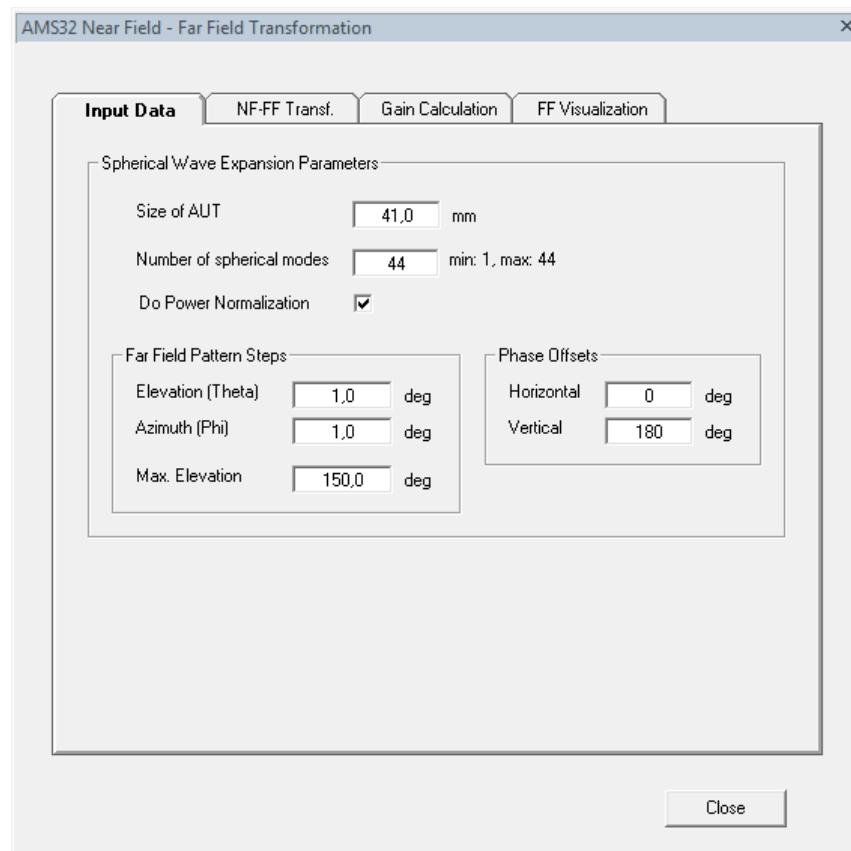

Figure 6-1: AMS32 Near Field - Far Field Transformation Window for Spherical Wave Expansion
1. In the "Near Field - Far Field Transformation" window (s.f. Figure Figure 6-1), some input data is required for the transformation algorithm. Depending on the algorithm, the required input parameters vary. The built-in AMS32 help can always be accessed using the **F1** shortcut on the keyboard for further information about the parameter. For all algorithms, define the size of the DUT, respectively the size of a primitive shape that completely surrounds the DUT. Also, define the angular step size of the transformed FF data.